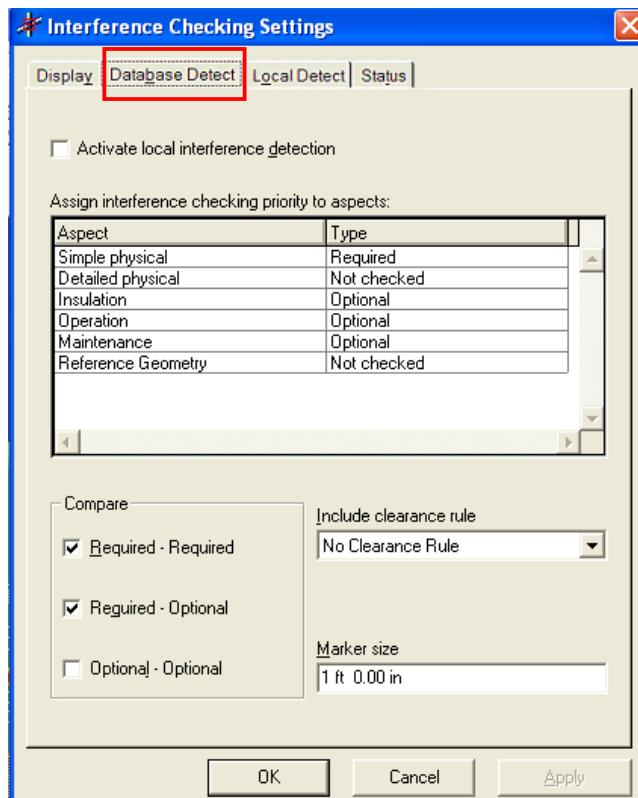

Figure 3: Interference Checking Settings Dialog Box
- The **Properties** option on **Interference Checking** ribbon will open the **Interference Checking Settings** dialog box. The Database Detect tab shows the status of the Server Interference Detection (Refer to Figure 3).